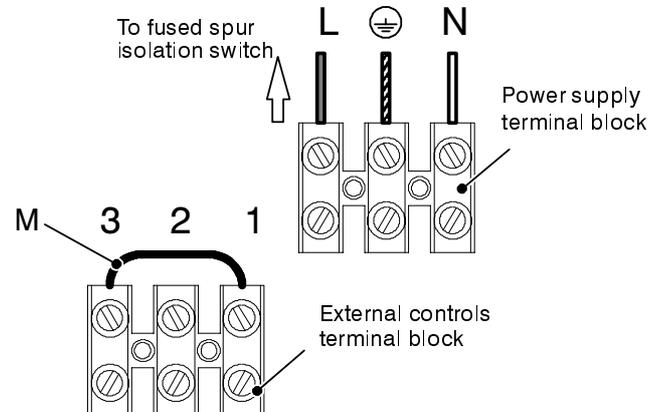

Fig. 6.13
6 Connect the electrical supply flexible cord coming from the fused spur isolation switch to the power supply terminal block of the boiler (Fig. 6.13) keeping the same connections for the live (brown wire) and the neutral (blue wire). External 3 A fuse or fused plug with same current rating is recommended.
**When connecting any type of external control, the link M in Fig. 6.13 must be removed.**